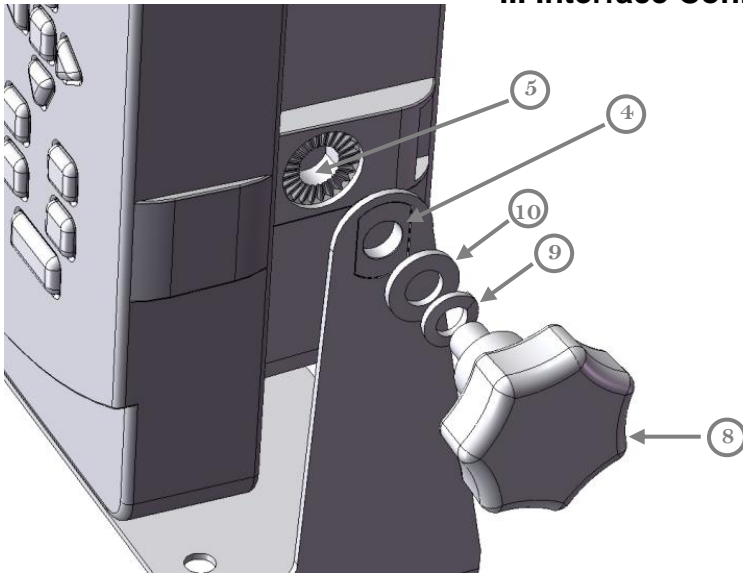

Figure 2-2-2-5 Installation instruction
(Refer to Figure 2-2-2-4)
When the mounting bracket and the CAMINO-201 are aligned, insert the knob (8) thru the Spring Washer (9), the Washer (4), then the body joint till it click on the mounting bracket joint (5) as shown in Figure 2-2-2-5.
- Knob (8) should be placed outside of the body joint (4) .